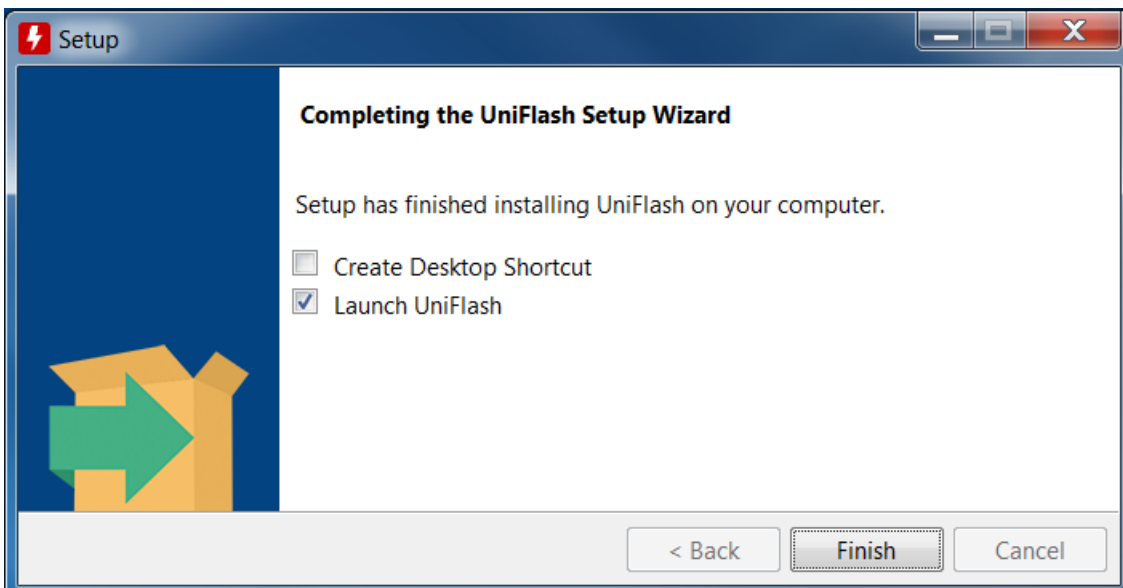

Figure 2-3. Complete Installation
4. Proceed with the installation and click Finish once done, as shown in Figure 2-3.